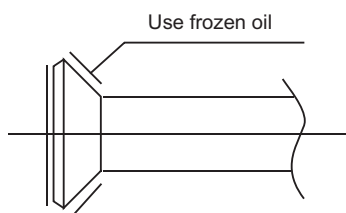

Fig.6-1
- ① Bend the tubing in proper way. Dont harm them.
- ② Daub the surfaces of the flare pipe and the joint nuts with frozen oil, and wrench it for 3~4rounds with hands before fasten the flare nuts. (Refer to Fig.6-1)
- ③ Be sure to use two wrenches simultaneously when you connect or disconnect the pipes.